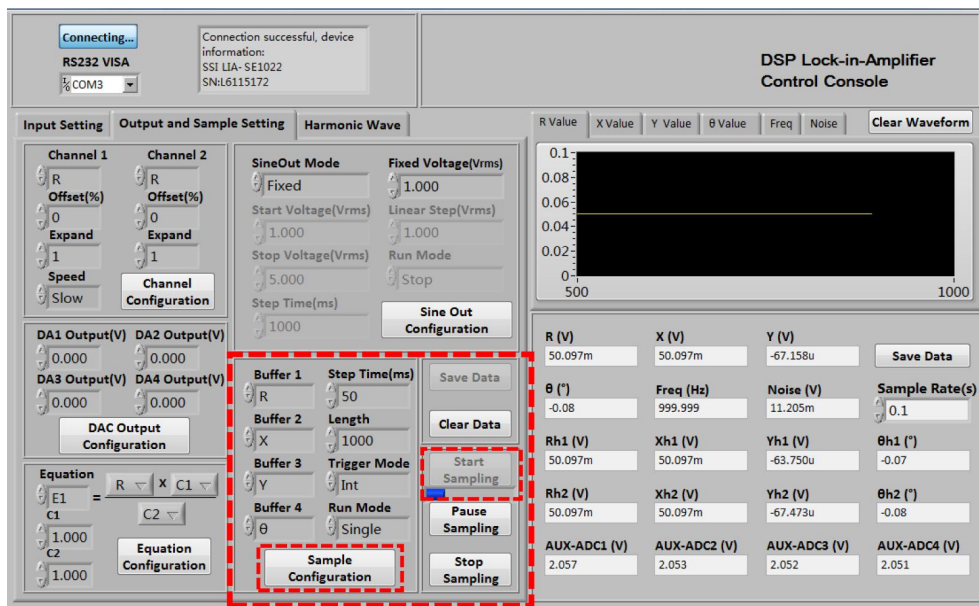

Fig.85 Save the Collected Data
- When the progress bar runs to 100%, the collection of data is finished. Now if you want to save data, just click the button in the red box in Fig.85.